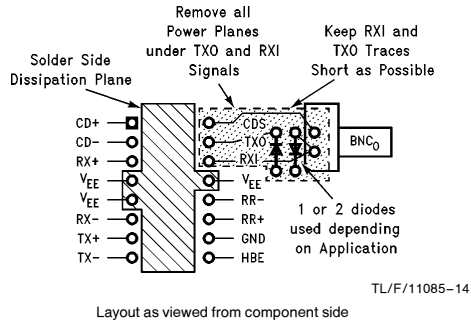
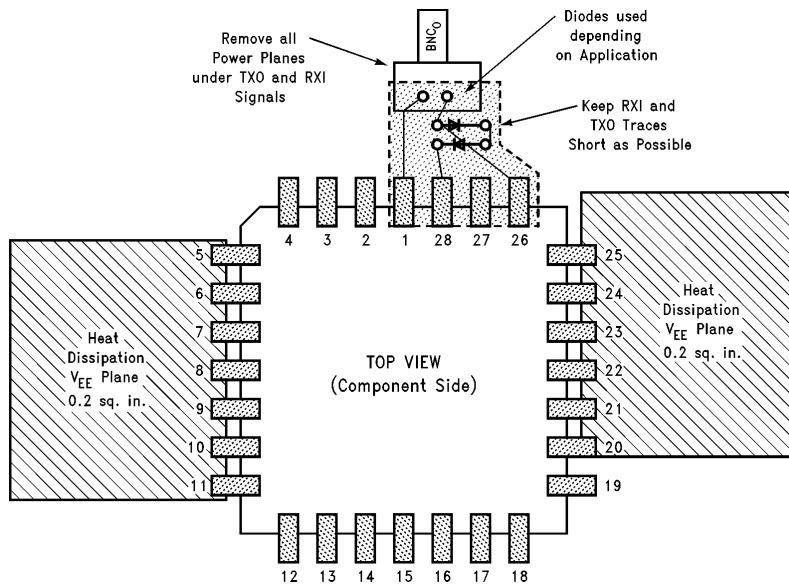

FIGURE 6. Typical Layout Considerations for DP8392CN (Not to Scale)
FIGURE 7. Recommended Layout and Dissipation Planes for DP8392CV (Not to Scale)
1. Ensure that the parasitic capacitance added to the RXI and TXO pins is minimized. To do this keep these signal traces short, and remove any power planes under these signals, and under any components that connect to these signals. *Figure 6* shows the component placement for the DIP package. The PLCC component placement would be similar, as shown in *Figure 7*.
The size of the trace plane depends on the package used and the duty cycle of transmissions. For the DIP package the plane should be connected to pins 4–5, 13, and the size should be approximately 0.2 square inches for applications where the duty cycle of the transmitter is very low (<10%). This would be typical of adapter or motherboard applications. In applications where the transmitter duty cycle may be large (repeaters and external transceivers) the total area should be increased to 0.4 in². *Figure 6* illustrates a recommended component side layout for these planes.
For the PLCC packaged DP8392, it is recommended that a small printed circuit board V_{EE} plane be connected to pins 5–11, and a second one be connected to pins 20–25. To reduce the thermal resistance to the required value, the area of the plane on EACH set of pins should be $\geq 0.20 \text{ in}^2$ for applications with low transmitter duty cycle, and $\geq 0.4 \text{ in}^2$ for high transmit duty cycle applications. *Figure 7* illustrates a recommended component side layout for these planes.